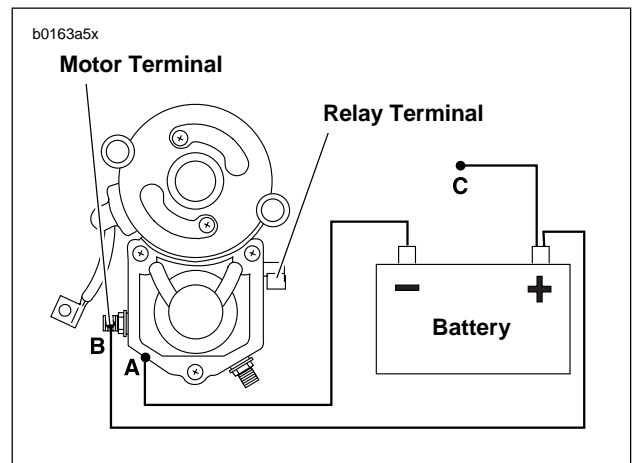

Figure 5-14. Return Test
- See Figure 5-14. With test leads still connected in the manner specified at the end of the previous **SOLENOID HOLD-IN TEST**, disconnect solenoid relay terminal/positive battery post test lead (C) at either end.